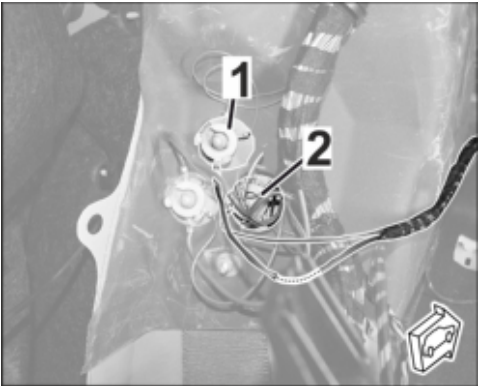

Figure 7
- Brown (6 mm²) on MPB 43 ⇒ *Figure 7 -1-*
- Brown (2.5 mm²) on MPS 43 ⇒ *Figure 7 -2-*